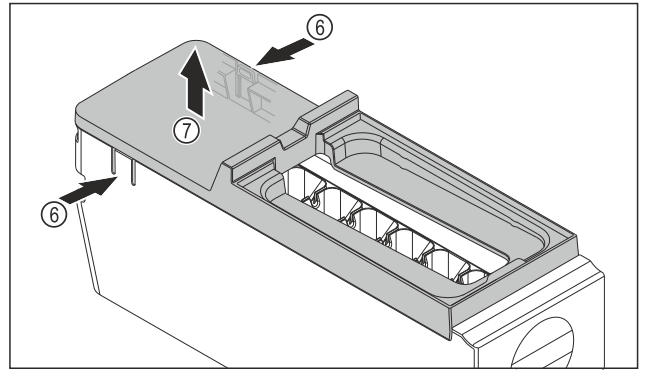

Fig. 78
- Removing the EasyTwist-Ice body cover: Push the tabs Fig. 78 (6) on both sides of the EasyTwist-Ice body with one hand.
- Use the other hand to remove the cover Fig. 78 (7) upwards.